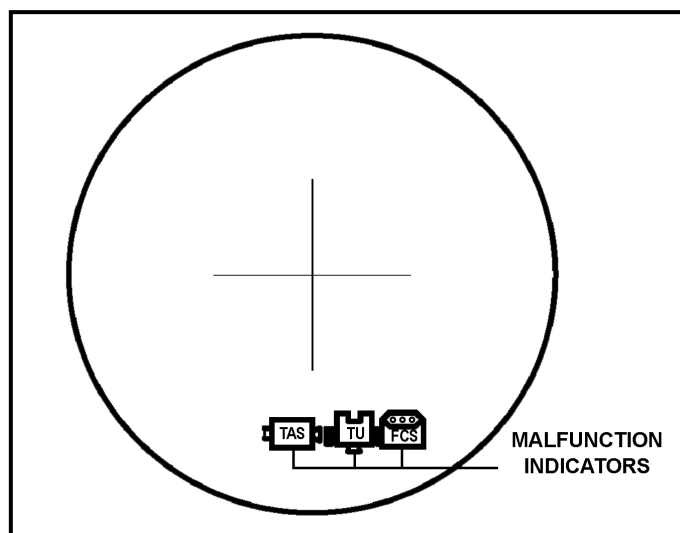

Figure E-6. Malfunction indicators.
- a. **Power Up Built-In Test (PBIT).** When the TOW ITAS is first powered up, the PBIT procedure is automatically initiated and checks the TAS, FCS, and BPS to see if the power supplied to each is correct. The test lasts for approximately fifteen seconds and shows the results on the TAS display upon completion. A PBIT failure will be indicated when the appropriate indicator on the TAS display is illuminated (Figure E-6).